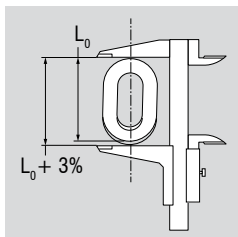

Fig. 10: Impermissible wear and tear or elongation on a chain link
- Impermissible wear and tear or elongation on a chain link e. g. when the rated dimension of the inner length is exceeded by 5%. This corresponds to an outer elongation of 3% (Fig. 10)